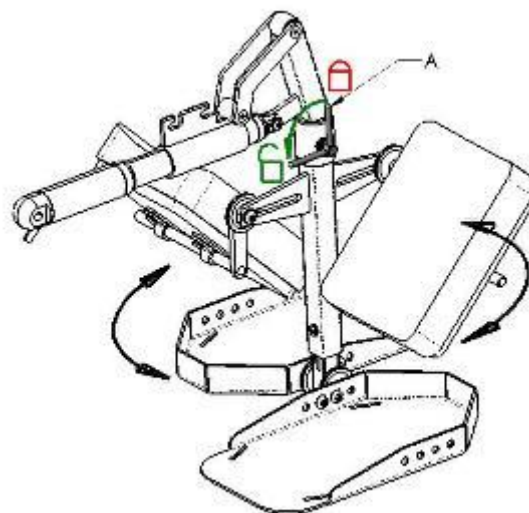

Figure 10
Return the lever (A) to either the original position or to the opposite position, Figure 10.